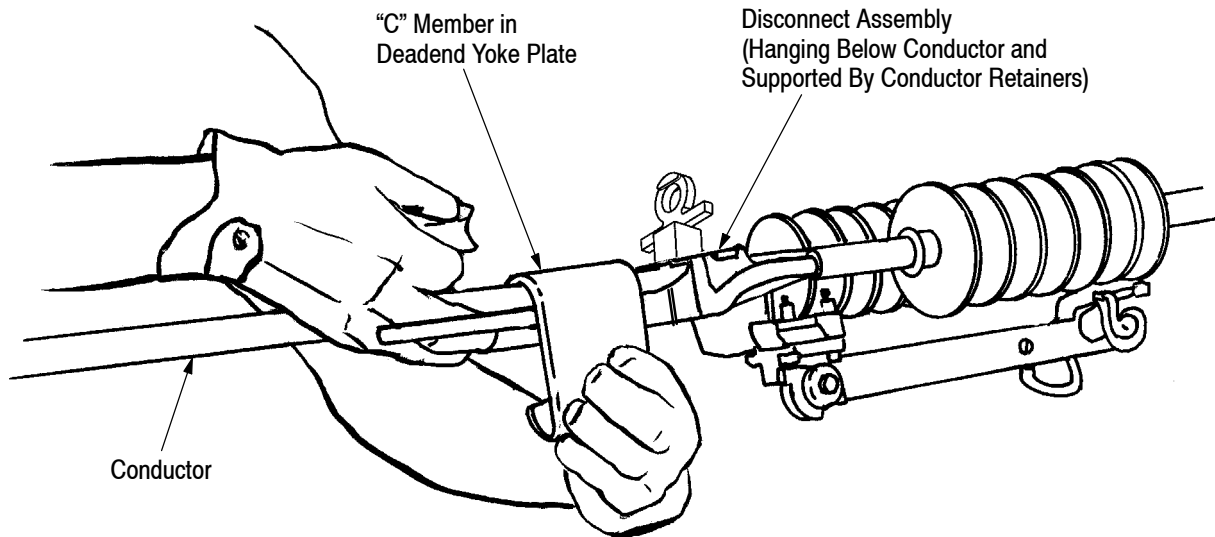

Figure 5
6. Rotate the assembly until it hangs below the conductor. The connector retainers will support the assembly on the conductor. Refer to Figure 5.
1. Starting with either end of the assembly, place the open side of the deadend tap connector “C” member over the conductor and slide the end into the slot in the deadend yoke plate. See Figure 5.